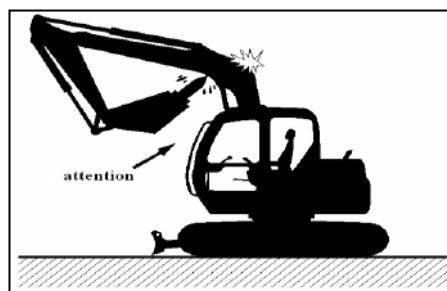

Figure 3.8.5
- (7) When retract foreside attachment, don't let the chisel of breaker to touch boom (As figure 3.8.5).